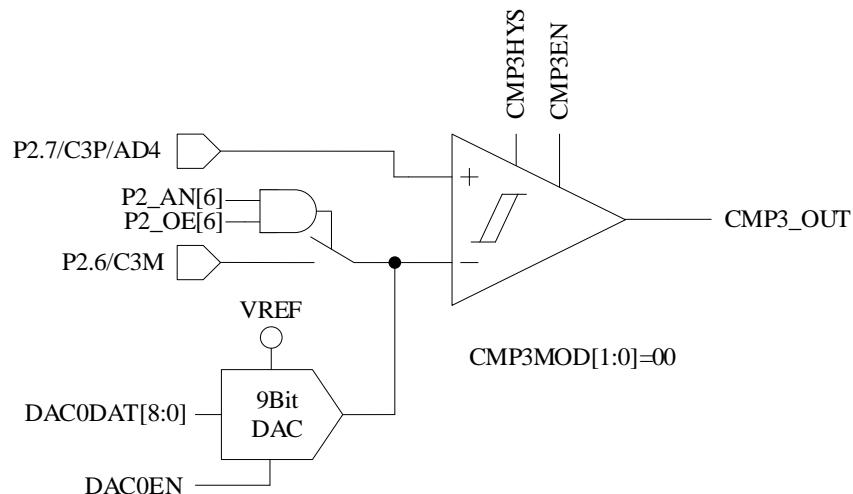
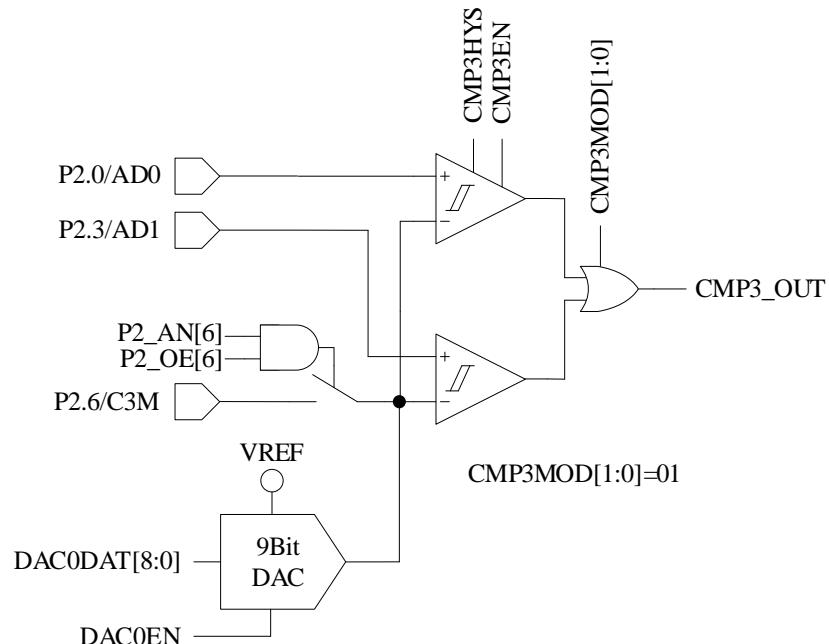
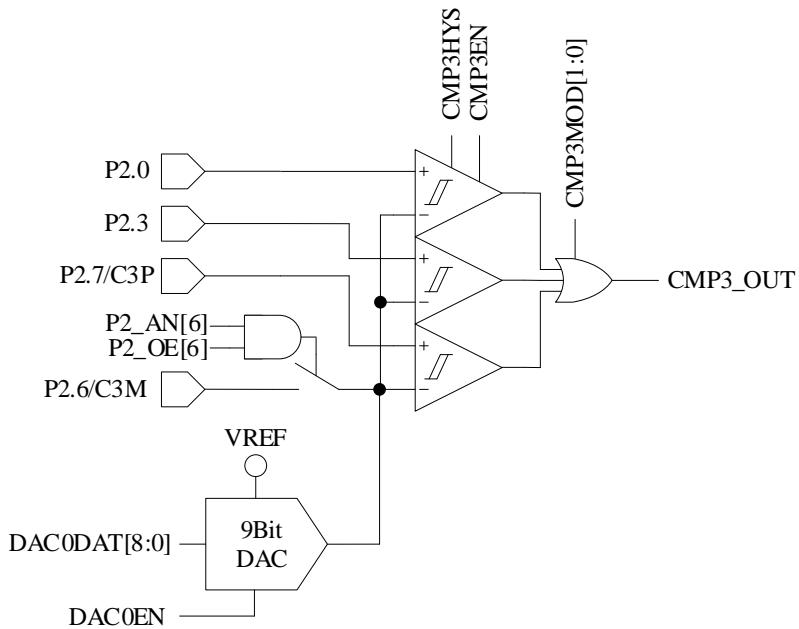

Figure 28-2 Single-comparator Input Mode
Figure 28-3 Dual-comparator Input Mode
Figure 28-4 Triple-comparator Input Mode
- When CMP\_CR1[CMP3MOD] = 00, CMP3 works in Single-comparator Input Mode. The connection of input and output pins are shown in Figure 28-2.
- When CMP\_CR1[CMP3MOD] = 01, CMP3 works in Dual-comparator Input Mode. The connection of input and output pins are shown in Figure 28-3.
- When CMP\_CR1[CMP3MOD] = 1X, CMP3 works in Triple-comparator Input Mode. The connection of input and output pins are as shown in Figure 28-4.
| [6:5]                                     | CMP3MOD | CMP Mode SelectionNegative input is connected to P2.6 or DAC0 output00: Single-comparator mode, where P2.7 is connected to the positive input, as shown in Figure 28-2.01: Dual-comparator mode, where P2.0 and P2.3 are connected to the positive input, as shown in Figure 28-3.1X: Three-comparator mode, where P2.0, P2.3 and P2.7 are connected to the positive input, as shown in Figure 28-4. |   |     |        |         |         |     |
| [6:5]                                     | CMP0MOD | CMP Mode SelectionNegative input is connected to P2.6 or DAC0 output00: Single-comparator mode, where P2.7 is connected to the positive input, as shown in Figure 28-2.01: Dual-comparator mode, where P2.0 and P2.3 are connected to the positive input, as shown in Figure 28-3.1X: Three-comparator mode, where P2.0, P2.3 and P2.7 are connected to the positive input, as shown in Figure 28-4. |     |     |         |   |     |     |